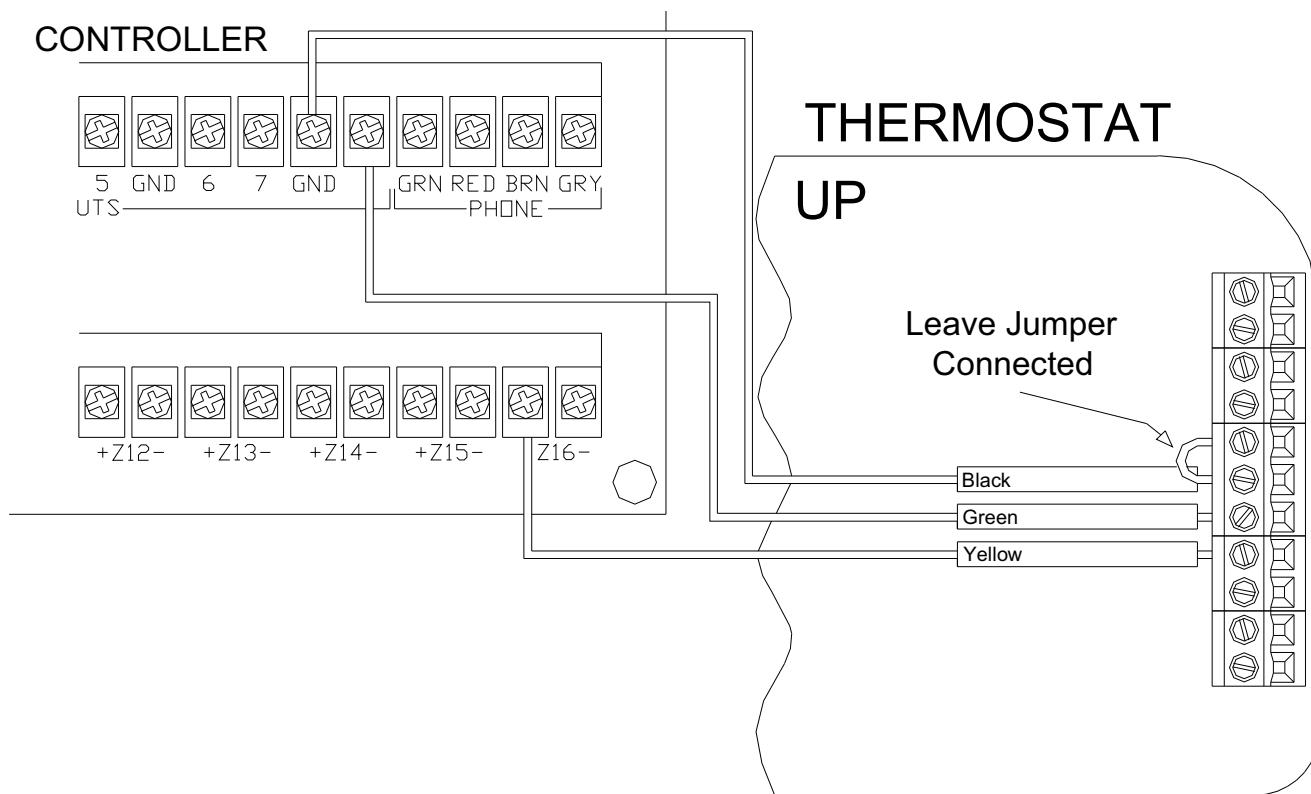

Figure 11 – Connections to HAI Home Control System
Run a 3 (or 4) conductor wire from the HAI system to the thermostat location. All thermostats on an HAI Home Control system are connected to Ground, Zone +16, and Output 8 - *See Figure 11.*
2. When connecting to an HAI Home Control System, the metal jumper between terminal labeled “N/C” and the terminal labeled “Black” on the right terminal strip must remain in place – *See Figure 11.*